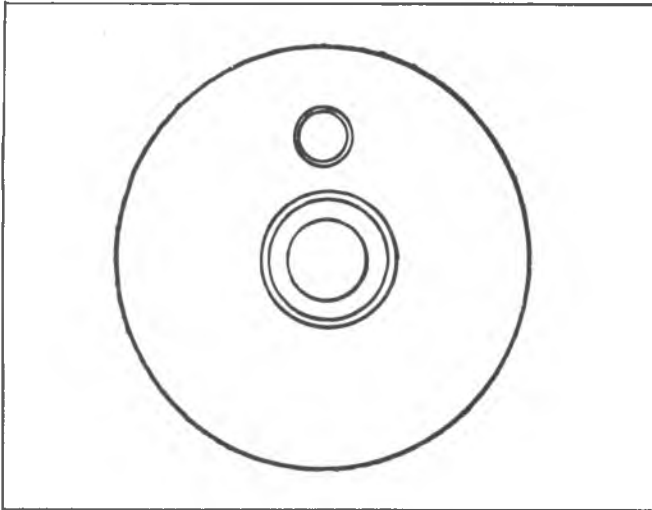

Fig. 6A6-86--Camshaft Identification
21. Remove camshaft by carefully sliding it out the front of the engine. Do not force shaft as damage can occur to camshaft bearings. Refer to Fig. 6A6-86 for camshaft identification.